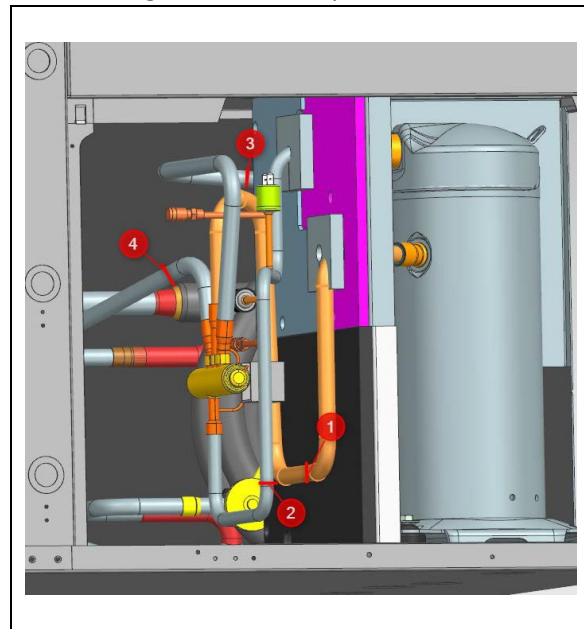

Figure 6. Suggested locations to cut pipes
6) Cut pipes shown on figure 6 to remove reversing valve assembly.